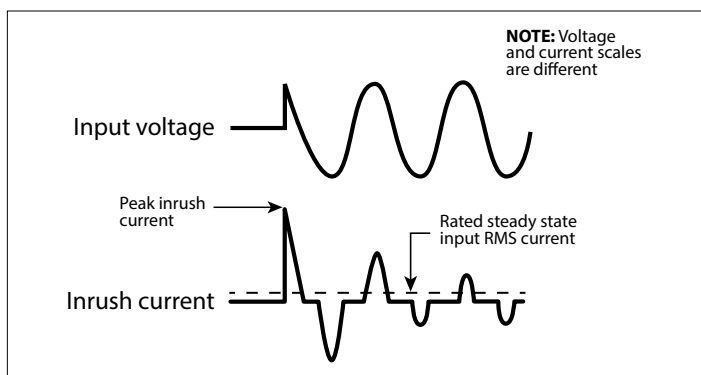

Fig 4.1: Inrush current in an SMPS
- AC to DC Switched Mode Power Supplies (SMPS): This type of power supply is used as stand-alone power supply or as front end in all electronic devices powered from Utility / Grid e.g. in audio/video/ computing devices and battery chargers (Please see Section 4 for more details on SMPS). When this power supply is switched ON, its internal input side capacitors start charging resulting in very high surge of Inrush Current for a few millisecs (Please see Fig 4.1). This surge of inrush current / power may reach up to 15 times the Continuous Maximum Running Power Rating. The surge of inrush current / power will, however, be limited by the Surge Power Rating of the AC source.
**Power Factor, (PF):** It is denoted by "PF" and is equal to the ratio of the Active Power (P) in Watts to the Apparent Power (S) in VA. The maximum value is 1 for resistive types of loads where the Active Power (P) in Watts = the Apparent Power (S) in VA. It is 0 for purely inductive or purely capacitive loads. Practically, the loads will be a combination of resistive, inductive and capacitive elements and hence, its value will be  $0 < \text{PF} < 1$ . Normally it ranges from 0.5 to 0.8 e.g. (i) AC motors (0.4 to 0.8), (ii) Transformers (0.8) (iii) AC to DC Switch Mode Power Supplies (0.5 to 0.6) etc.
Switch Mode Power Supplies (SMPS) are extensively used to convert the incoming AC power into various voltages like 3.3V, 5V, 12V, 24V etc. that are used to power various devices and circuits used in electronic equipment like battery chargers, computers, audio and video devices, radios etc. SMPS use large capacitors in their input section for filtration. When the power supply is first turned on, there is a very large inrush current drawn by the power supply as the input capacitors are charged (The capacitors act almost like a short circuit at the instant the power is turned on). The inrush current at turn-on is several to tens of times larger than the rated RMS input current and lasts for a few milliseconds. An example of the input voltage versus input current waveforms is given in Fig. 4.1. It will be seen that the initial input current pulse just after turn-on is > 15 times larger than the steady state RMS current. The inrush dissipates in around 2 or 3 cycles i.e. in around 33 to 50 milliseconds for 60 Hz sine wave.